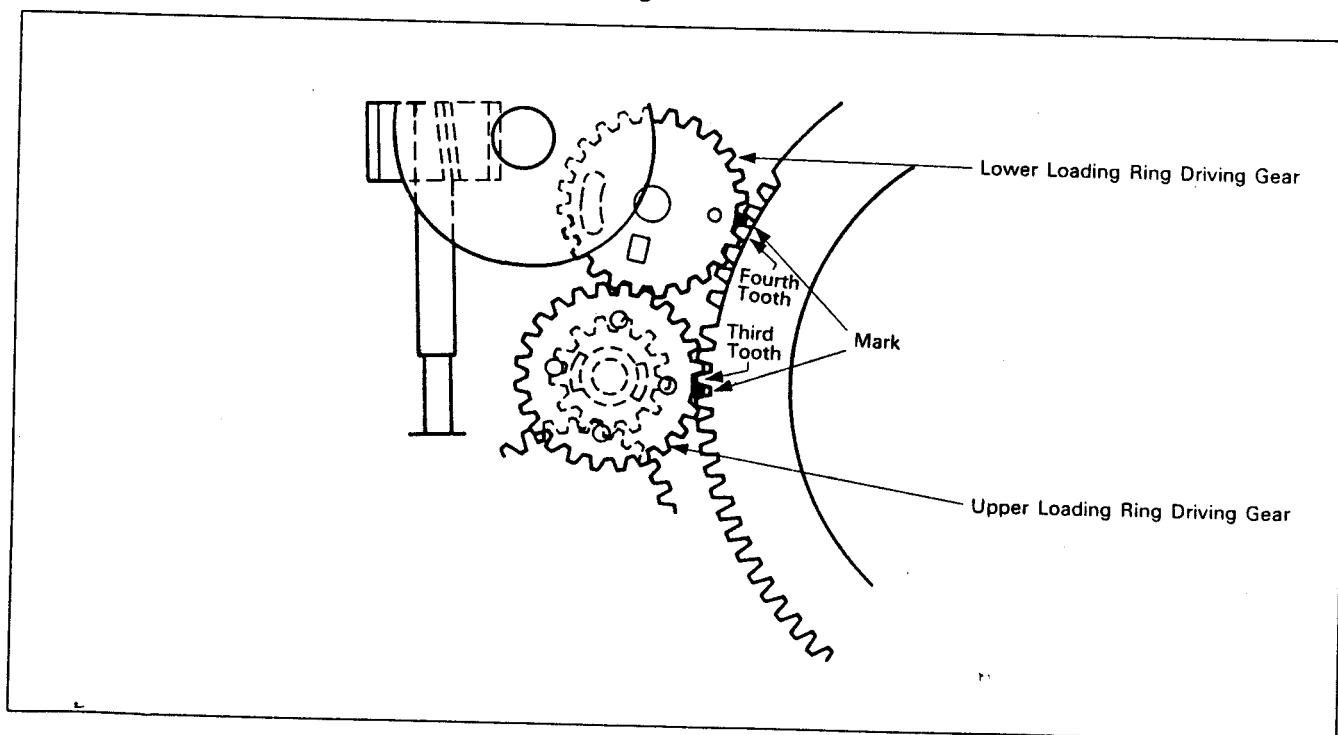

Fig. 2-29.
- 2) Referring to Fig. 2-29, mesh the 3rd tooth of upper loading ring with the marked tooth of upper loading ring drive gear ; mesh the 4th tooth of lower loading ring with the marked tooth of lower loading ring drive gear.
- 3) Match dimples and dowels of cylinder base ASSY with the main chassis and secure them with screws ① and ②.
- 4) Tighten lightly screw ③ into the hole of S rail end after completion of the reel chassis ASSY in-phase adjustment.